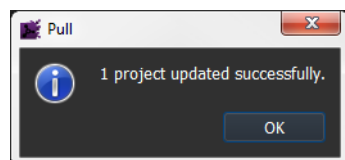

Fig. 6-91: Pull Message
- 5 When the pull is complete a 'pulled successfully' message is shown. See Figure 6-91.